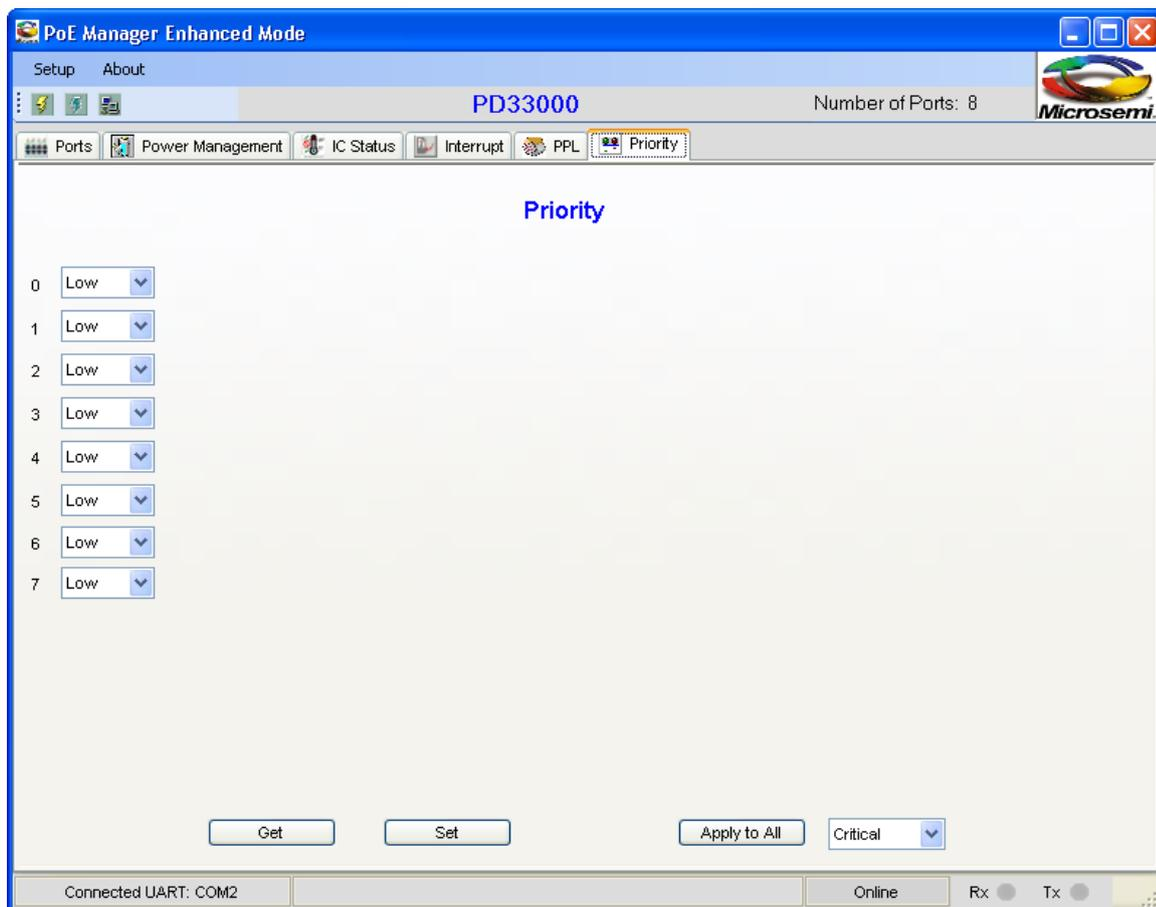

Figure 6-6: PoE Manager Enhanced Mode Window, Priority Tab (PoE+)
- On the PoE Manager Enhanced Mode window, click the **Priority tab**. The following screen appears (Figure 6-6):